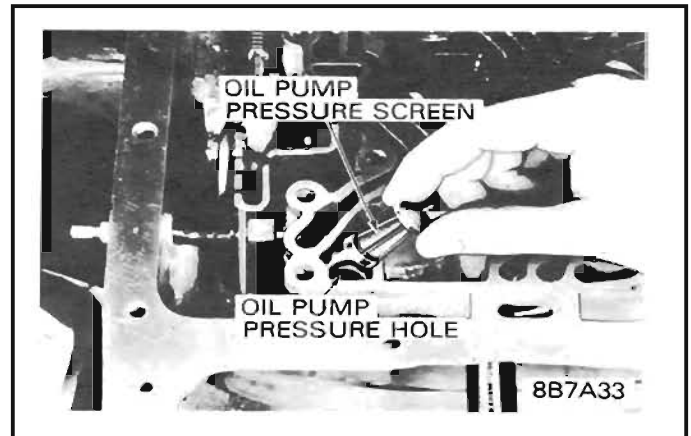

Figure 24 Pump Screen Removal
22. Remove oil pump pressure screen from the case. Inspect for damage. Clean or replace as necessary. See Figure 24.